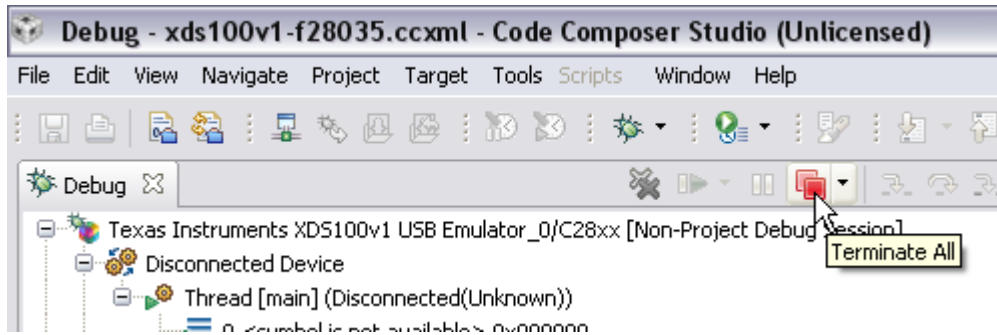

Figure 7. CCS Terminate All
- Click "Terminate All" (see Figure 7) and close CCStudio.